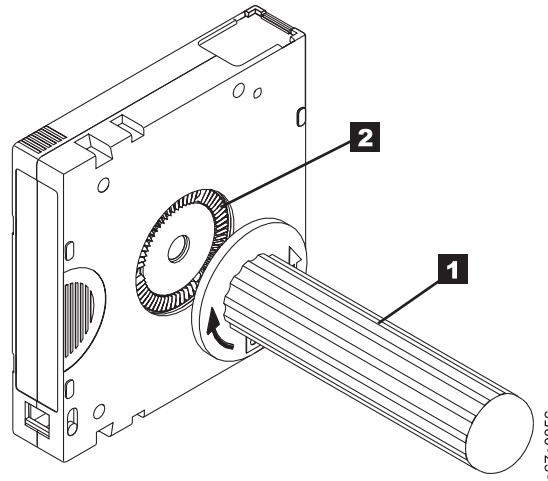

Figure 4-10. Rewinding the tape into the cartridge
5. To rewind the tape, insert the cartridge manual rewind tool (**1** in Figure 4-10) into the cartridge 's hub **2** and turn it clockwise until the tape becomes taut.